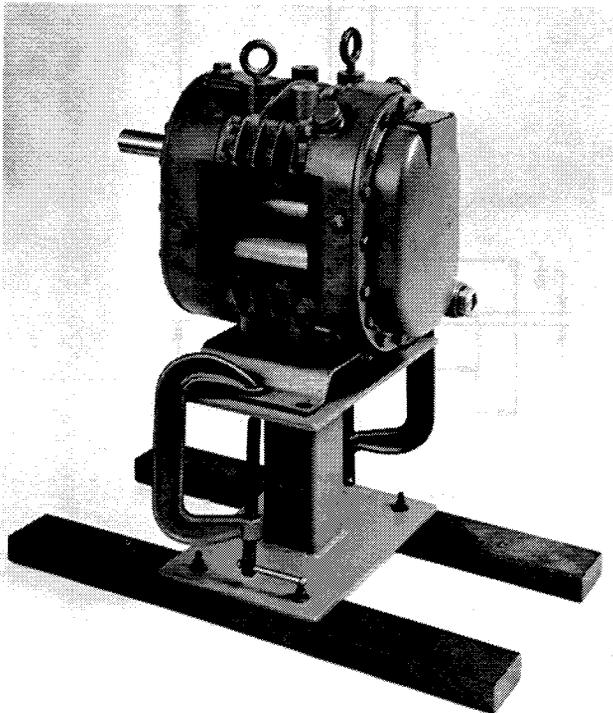

FIGURE 6
- a. Securely fasten the unit to the workbench, gear end facing out, using the mounting or holding fixture and C-clamps (see Fig. 6).